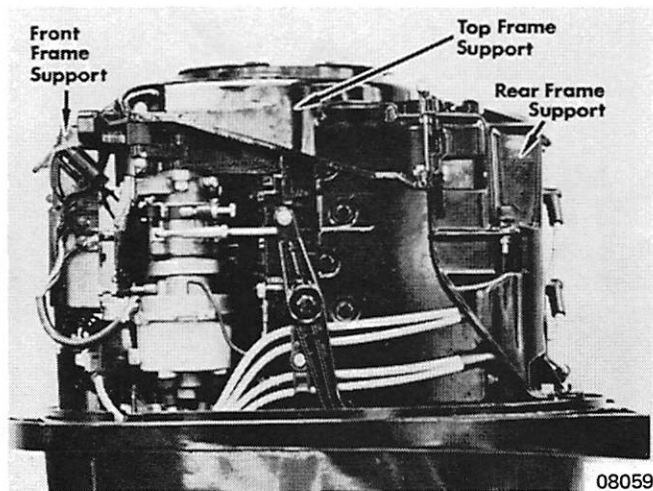

Figure 1. Powerhead Frame Supports
2. Remove powerhead frame supports (front, top and rear). (Figure 1)